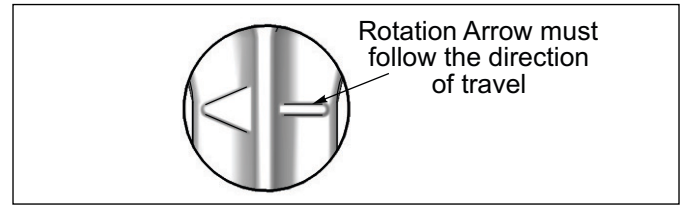

Figure 2-37: Wheel Rotation
*Crowfoot Wheel Rotation Arrow must follow the direction of travel. See **Figure 2-37**.*